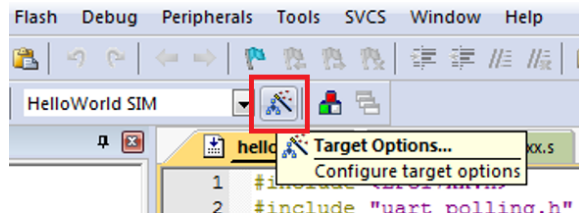

Figure 1.2: Keil IDE: Target Option Button
1. Click the Target Option button (see Figure 1.2) to verify the following: